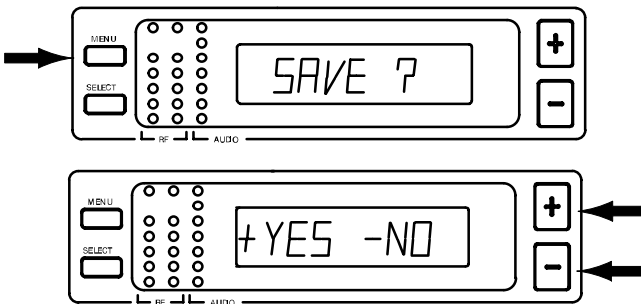
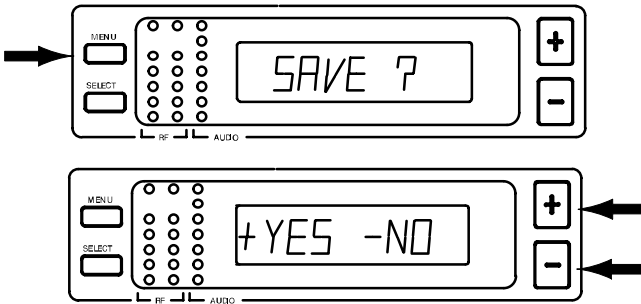

FIGURE 15
FIGURE 20
- When the new Group/Channel has been completely entered, press the MENU button. “SAVE?” appears on the display, followed by “+ YES – NO”. Press the “+” button to save the new Group/Channel setting or press the “-” button to return to the original setting. See Figure 15.
- Press the MENU button to enter the desired frequency, as shown in Figure 15. SAVE? appears on the display, followed by "+ YES – NO". Press the "+" button to save the new frequency, or press the "-" button to return to the original setting. See Figure 20.